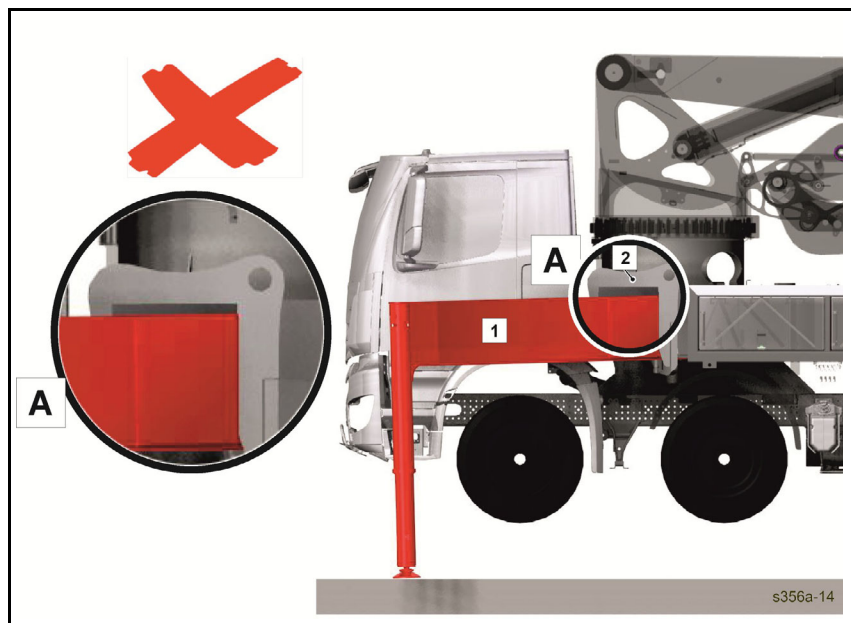
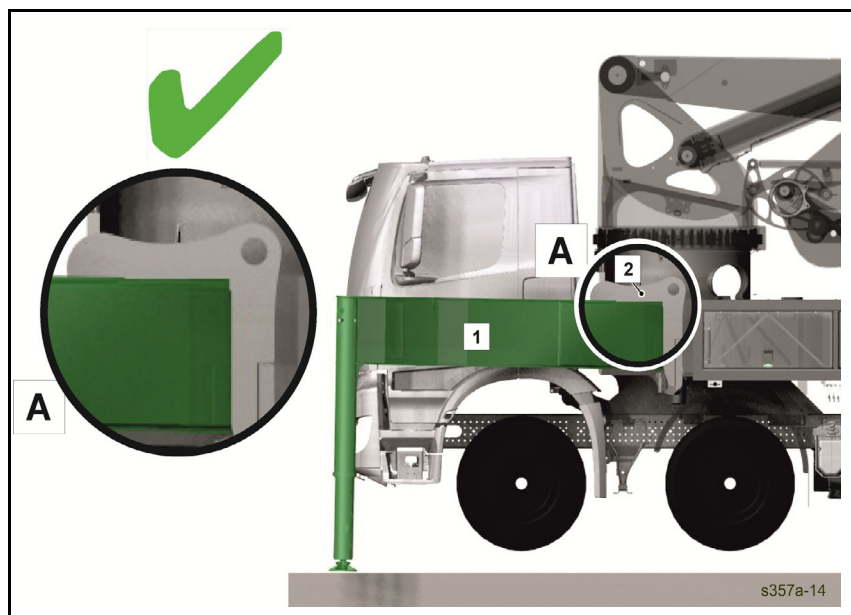

Fig. 157 Example of incorrect distance between outrigger and base frame
Fig. 158 Example of correct distance between outrigger and base frame
- Note that there is no space between the outriggers (1) and base frames (2) after being raised (none of the vehicle wheels are touching the ground), see **(Fig. 157)** and **(Fig. 158)**. Should one of the outrigger stands not be in contact with the base frame, extend the supporting leg further until the outrigger stand is in contact with the base frame.
Caption (Fig. 157)
Caption (Fig. 158)